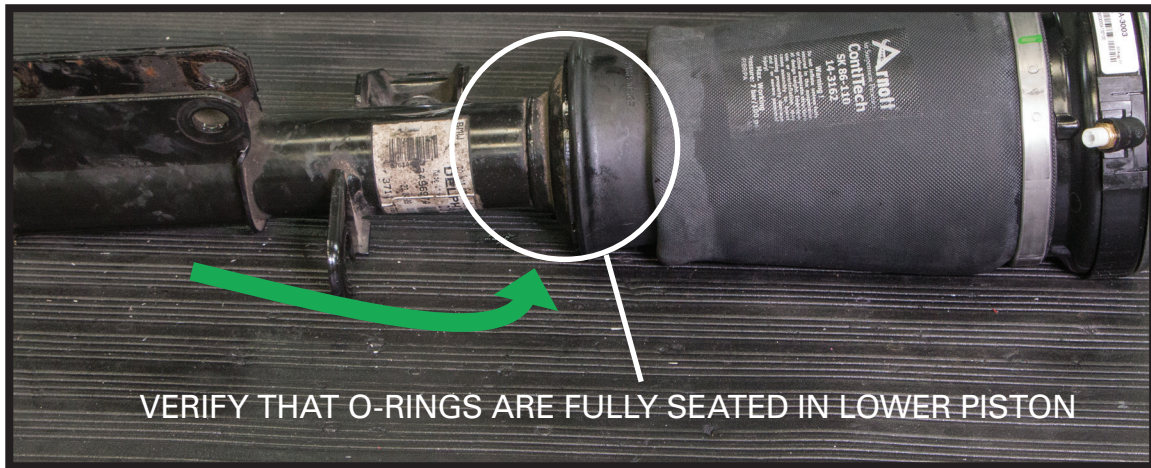

FIGURE 13
6. SLIDE AIR SLEEVE ASSEMBLY ONTO THE SHOCK UNTIL LOWER PISTON SEATS ONTO THE 2 (TWO) LOWER O-RINGS. ALIGN THE HOLE IN THE ALIGNMENT TAB ON THE PISTON WITH THE HOLE ON THE SHOCK, REINSTALL THE PLASTIC RETAINING PIN. FAILURE TO DO SO MAY CAUSE THE AIR SLEEVE ASSEMBLY TO NOT SEAL OR INFLATE. (FIGURE 13)